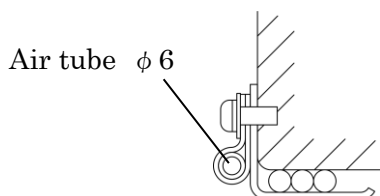

Fig.6
- (4) Secure the sewing machine left as shown in Figure 6 with Fig.No.302 nylon clips air tube.